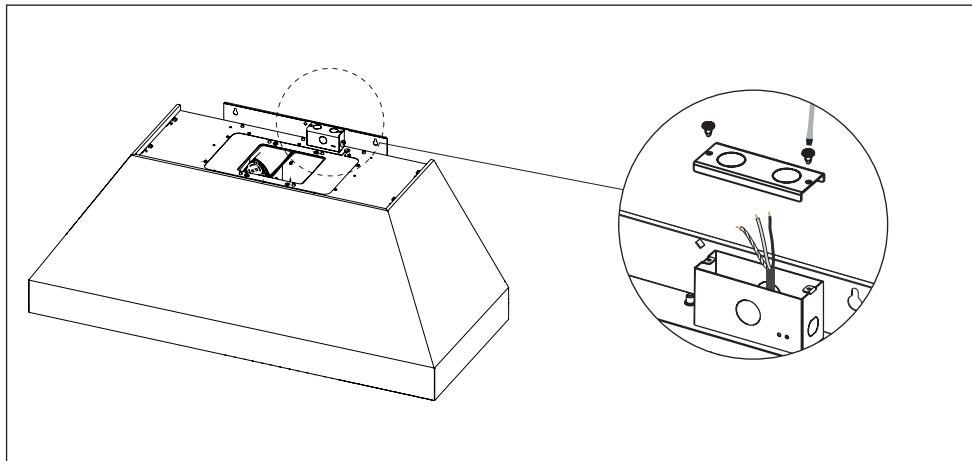

Fig.9
- **Electric Connection (Fig.9):**